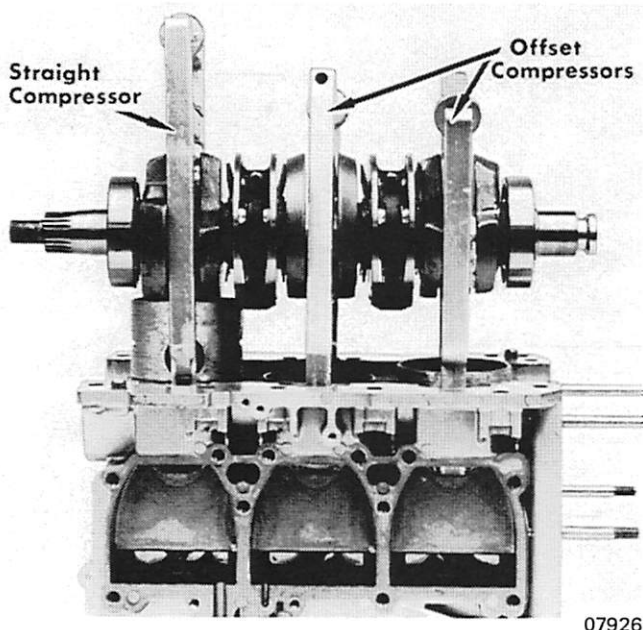

Figure 9. Placing Crankshaft Assembly in Cylinder Block with Compressors
19. Install ring compressors as follows: (Figure 9)
the cylinder block mounting studs. (Figure 9) Make sure that reed cage alignment hole aligns with locating pin in cylinder block.